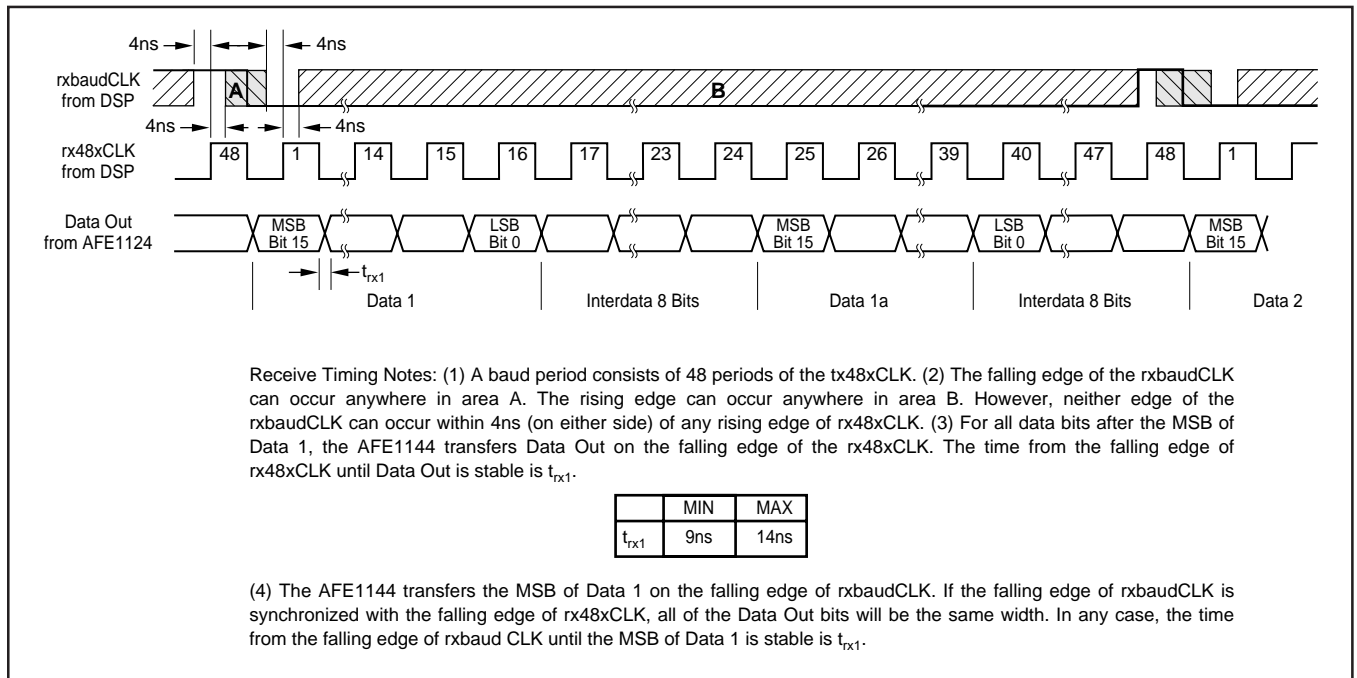

FIGURE 4. Receive Timing Diagram.
**Data Out:** This is the 14-bit A/D converter output data (+2 spare bits) sent from the AFE to the DSP. The 14 bits from the A/D Converter will be the upper bits of the 16-bit word (bits 15-2). The spare bits (1 and 0) will be always be low. Eight additional (interdata) bits follow which are always high. The data is clocked out on the falling edge of rx48xCLK. The bandwidth of the A/D converter decimation filter is equal to one half of the symbol rate. The nominal output rate of the A/D converter is one conversion per symbol period. For more flexible post processing, there is a second interpolated A/D conversion available in each symbol period. In Figure 4, the first conversion is shown as Data 1 and the second conversion is shown as Data 1a. It is suggested that rxbaudCLK is used with the rx48xCLK to read Data 1 while Data 1a is ignored. However, either or both outputs may be used for more flexible post-processing.